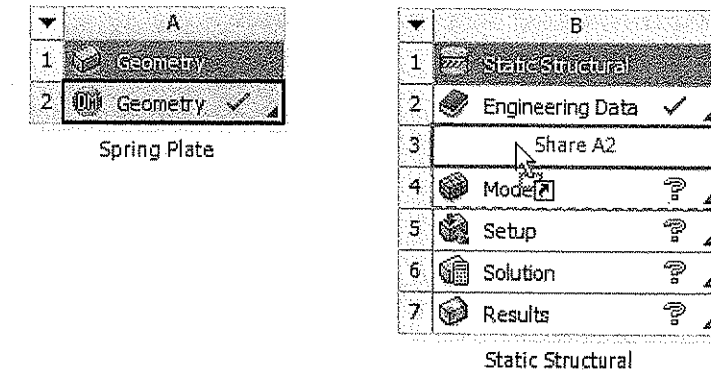

Figure 9-39 Dragging the **Geometry** cell to the **Static Structural** analysis system
- Drag the **Geometry** cell from the **Spring Plate** component system and drop in the **Geometry** cell of the **Static Structural** analysis system to share the created geometry, refer to Figure 9-39.